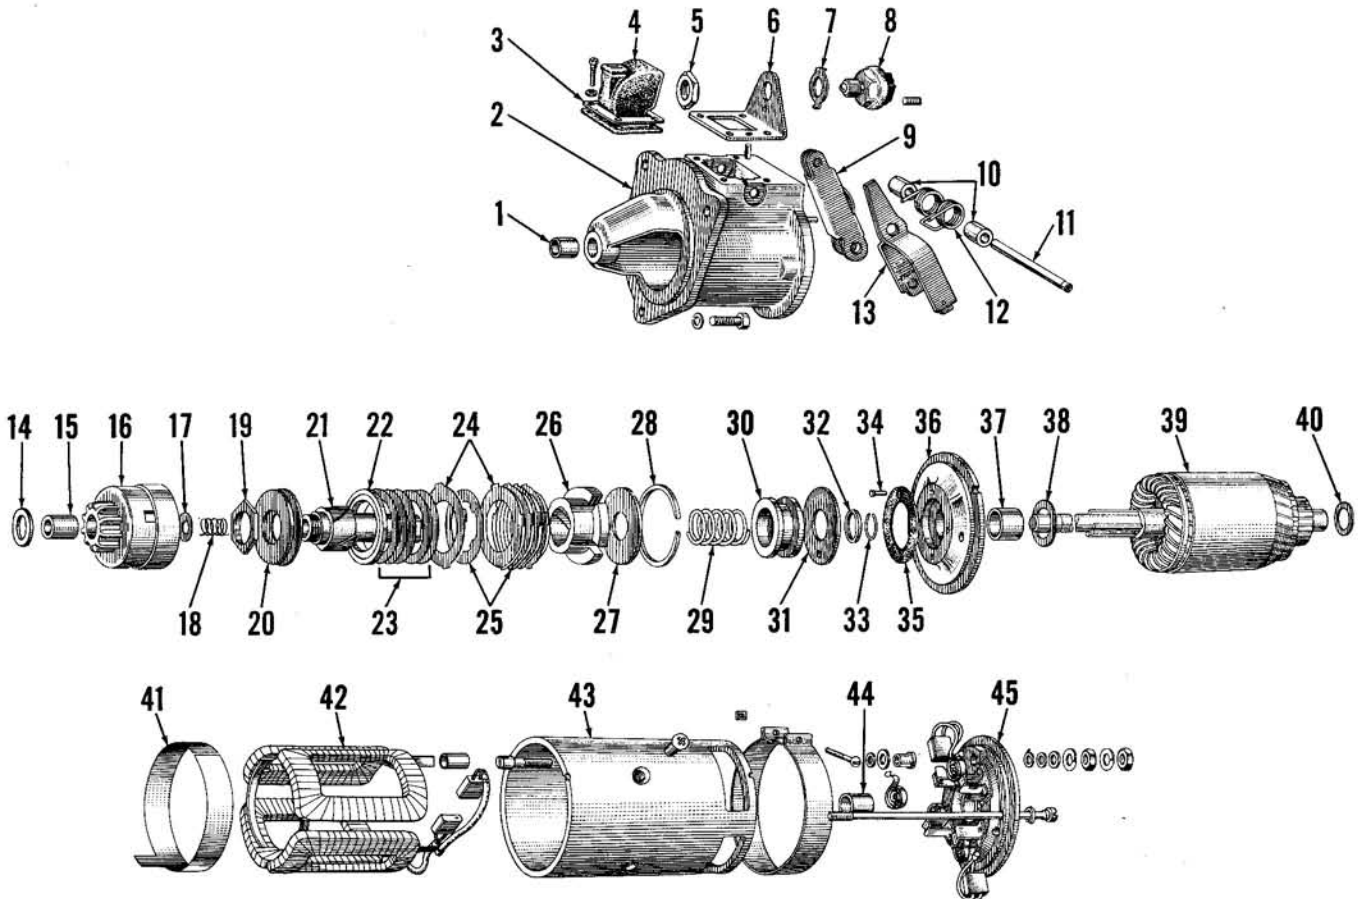

Fig. 102—Exploded view of starting motor assembly as used on all models. Refer also to Figs. 103 and 104.
147. Refer to Fig. 102 for exploded view of the Lucas starter motor used on all models. The starter motor incorporates a manually shifted drive pinion assembly which includes both
Use Fig. 102 as disassembly and reassembly guide. The torque limiting clutch should be reassembled with sufficient thickness of shims (25) so that clutch will slip when a torque of 65-80 Ft.-Lbs. is applied; refer to Fig. 103 for suggested method for checking clutch slipping torque. Shims are available in thicknesses of 0.004,